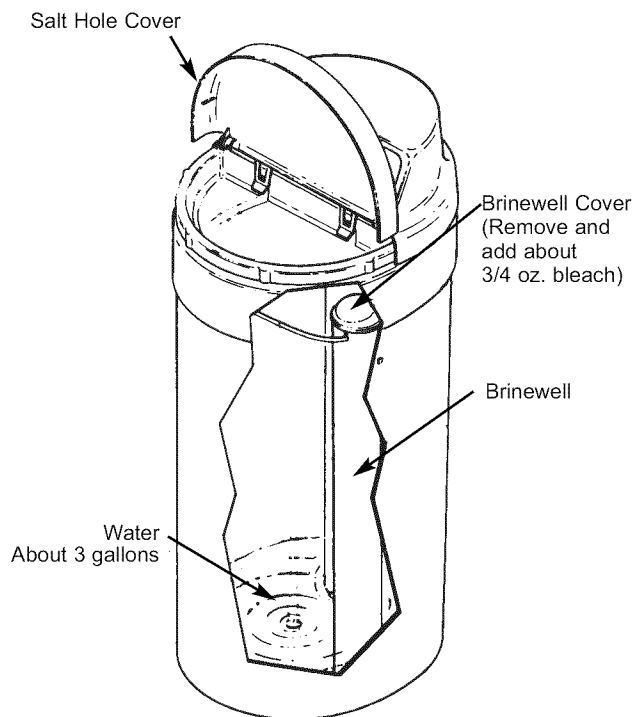

FIG. 28
3. Remove the brine well cover (Fig. 28) and pour about 3/4 ounce, or 1 to 2 tablespoons, of common 5.25%¹, *unscented*, household bleach (Clorox, Linco, BoPeep, White Sail, Eagle, etc.) in the softener brine well. Replace the brine well cover.